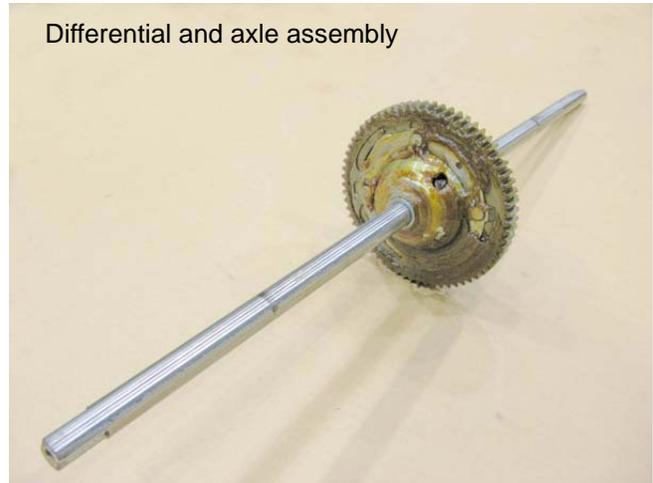

Figure 6.94
11. Slip the seals, bearings, and washers off of the differential and axle assembly. See Figure 6.94.